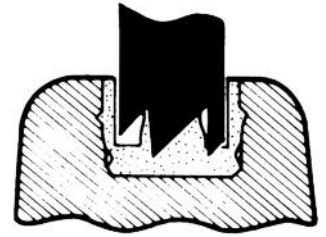

Fig. 14
2. Cut out the core of the male at low RPM's, using a short cutting cycle and in-and-out motion. Push in for about one second at a time. Check to see if the core is removed (Fig. 14). The core will remain in the core cutter and can be ejected by sliding a thin blade along the cutter's side slot.